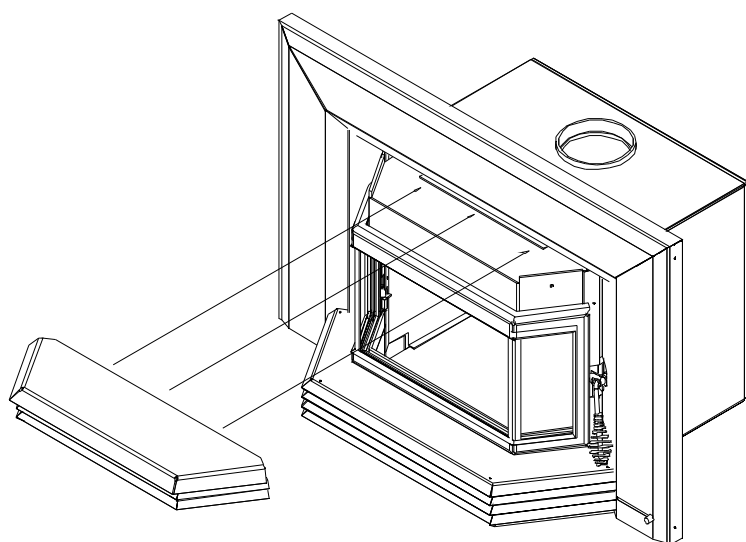

Figure 2.8
8. Cooktop is installed at the factory, Shipping screw must be removed before installation of faceplates. (Figure 2.8)